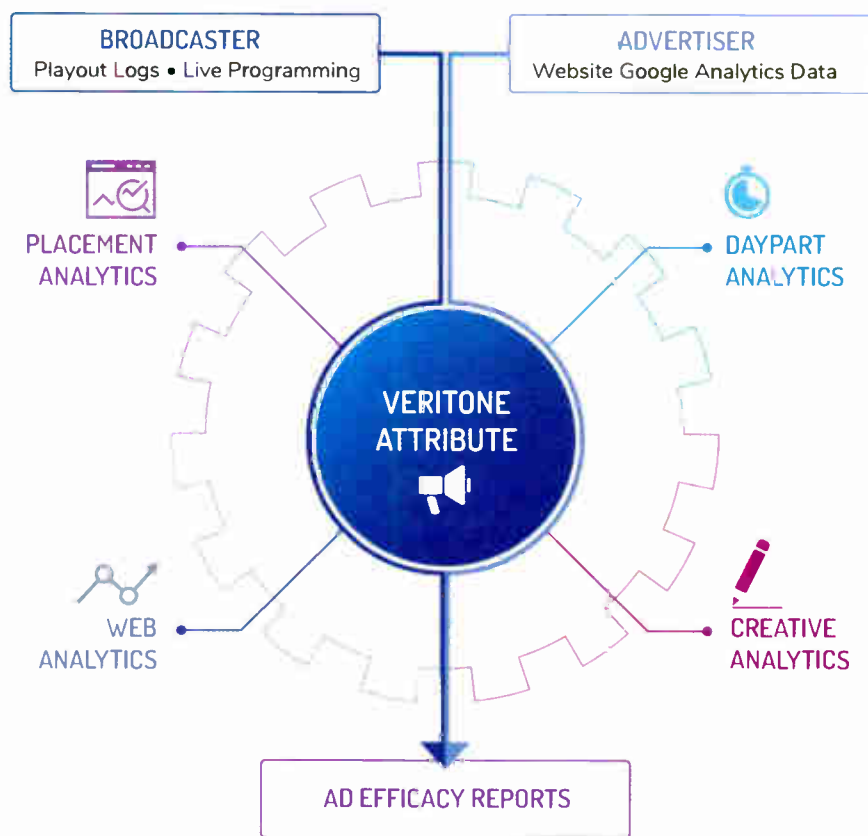

Fig. 1: Veritone Attribute correlates broadcast ad placements including spots, organic mentions and live reads with website interaction data in near real time.
- **Powering Earned Media Measurement:** From host reads and testimonials to contests and promotions, radio has long been known for its ability to deliver creative and valuable advertising integrations beyond just a spot buy. As advertisers ask for more added value in today's current economic climate, up until recently, earned media couldn't effectively be measured. AI can detect these earned media integrations and automatically apply them to the delivery goals of the campaign in terms of placement, frequency and impressions delivered. This allows the earned media to be part of the advertiser's ROI calculation so radio gets the full credit it deserves. (See Fig. 1.)